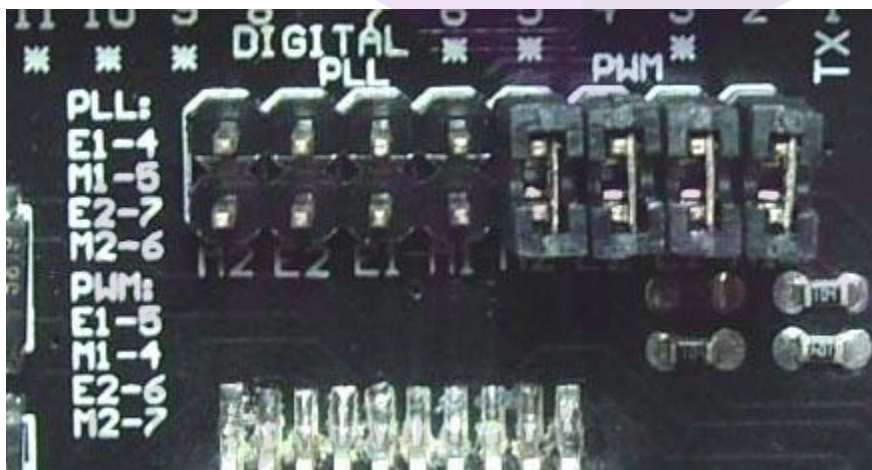

Figure 2 Control Mode Selection Jumpers
**Control Mode Selection Jumpers (Figure 2 below):** The shield supports PWM and PLL (Phased Locked Loop) control Modes. The PWM mode uses E1 and E2 to generate PWM signal. The PLL mode uses M1 and M2 to generate phase control signal.